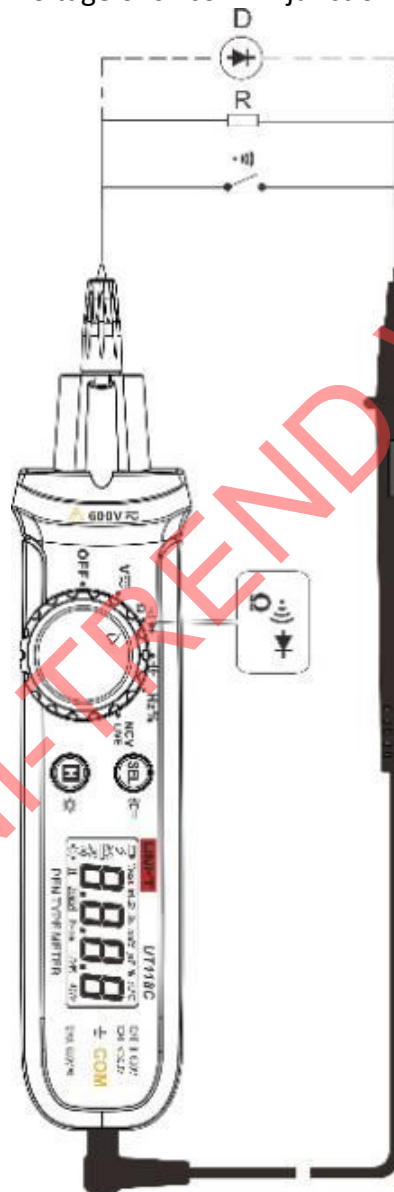

Figure 4
11.2 Measure Continuity, Resistance and Diode (Figure 4)